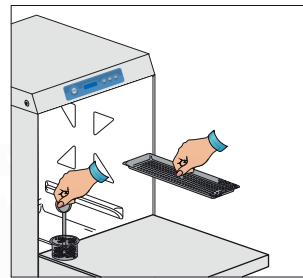

Fig. 1
1. Check if the pump suction filter is properly inserted in its seat on the wash tank bottom (Fig.1). This filter must be cleaned every 20 wash cycles or whenever necessary. ***Do not use the appliance without the filters.** Put the surface filters in place (Fig.1), shut the dishwasher door, turn the water valve *open* and turn the main power switch *on*.